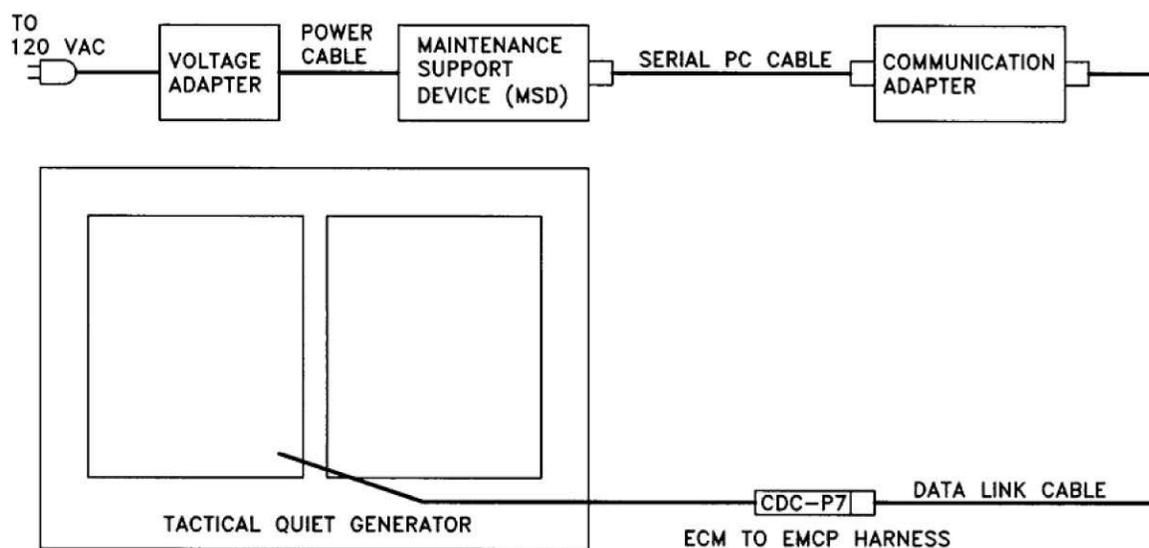

Figure 1. Connecting Caterpillar Communication Adapter.
- STEP 2. Connect data link cable between ECM to Electronic Modular Control Panel (EMCP) harness connector CDC-P7 and communications adapter (Figure 1).